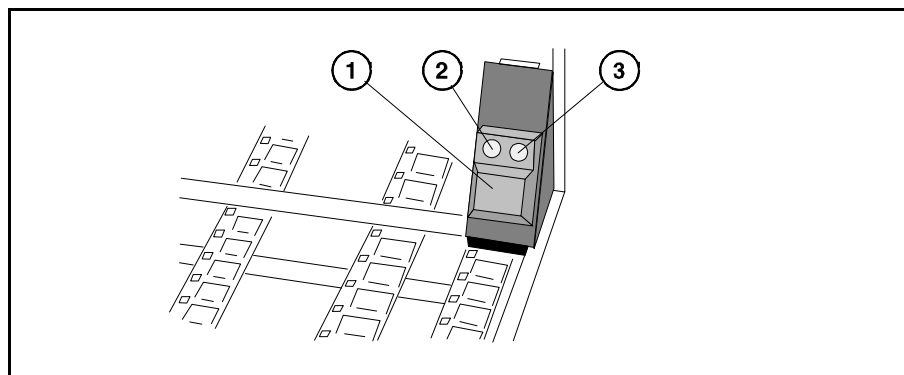

Figure 4-27. Release button and status LEDs
TM magazines must be equipped with a release button ('1' in Figure 4-27) which has a green LED (2) and a yellow LED (3).